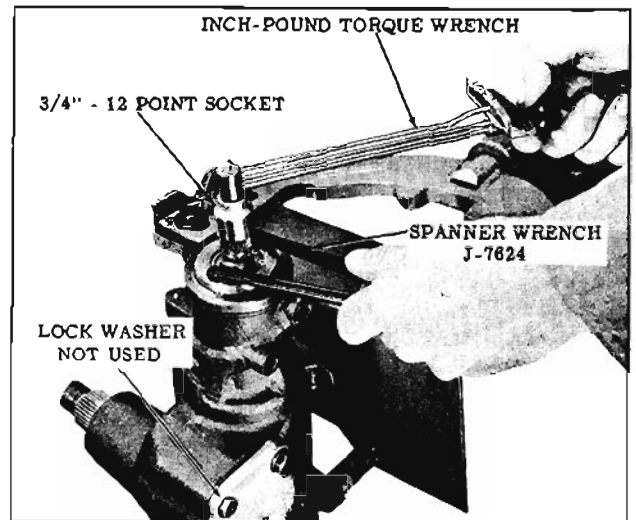

Fig. 8-72 Adjusting Thrust Bearing Pre-Load
- c. Install the four side cover bolts and three lockwashers and tighten 25 to 30 ft. lbs. Refer to Fig. 8-72 for washer location.
- b. Install an inch-pound torque wrench with a 3/4" 12-point socket on the lower shaft splines. (Fig. 8-72)